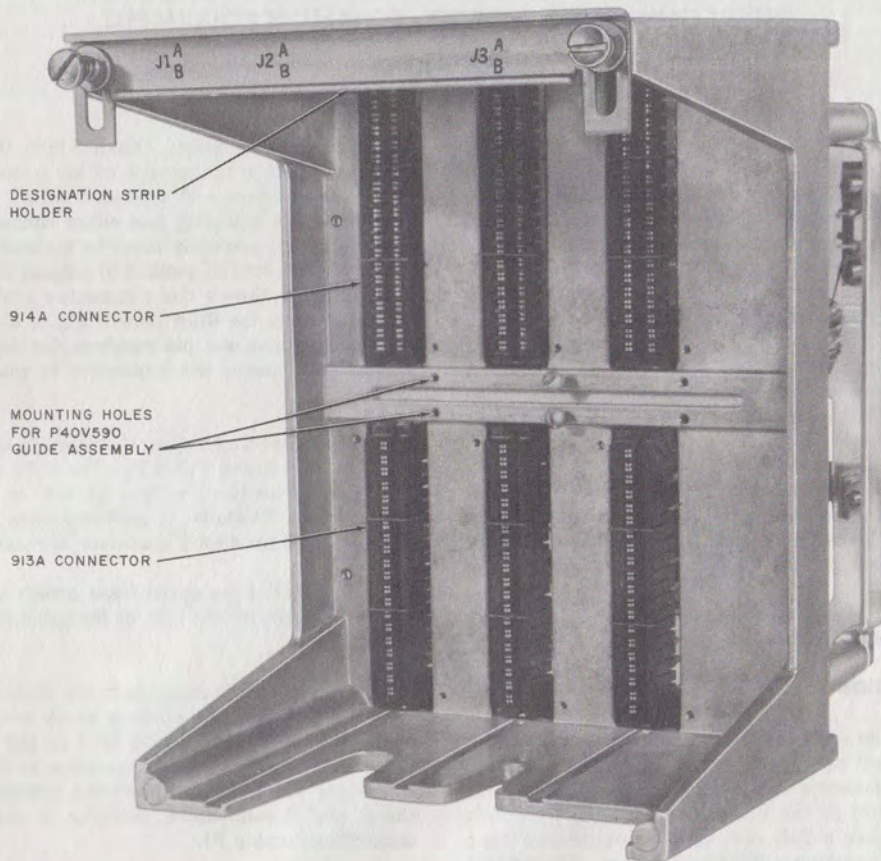

Fig. 1—615A Panel (Front View)
**2.01** The 615A panel (Fig. 1 and 2) consists of a cast aluminum carrier equipped with three 914A connectors in the upper row and three 913A connectors in the lower row. The 6- by 8-inch carrier has a full rear panel mounted on four standoffs making it 9-1/4 inches deep. The vertical rack space required is 8 inches (9 inches when mounted on 99B brackets).